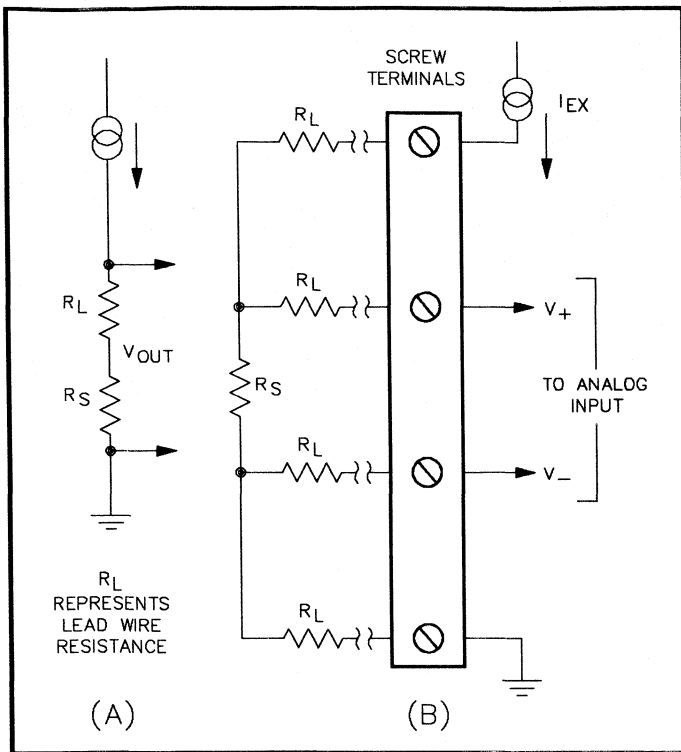

FIGURE 4-14. Measuring a Resistive Device.
that can be used to amplify the voltage change. Let us explore this concept in more detail. Fundamentally, a DA&C system can measure only voltage. Fortunately, as has been suggested, all other types of signals can be transformed into voltages. To convert a changing resistance, we need only to “excite” it with a current. The voltage across the resistance is then $(I \cdot R)$. FIGURE 4-14 (A) shows the basic idea.
The effects of lead-wire resistance should also be considered. The output voltage is proportional to the sum of the RTD resistance and the connecting wire resistance (R_L). In many applications this “wire error” can be very significant. FIGURE 4-14 (B) suggests a solution. This is the so-called Kelvin or four-terminal connection. Wire resistance cannot be eliminated, but this measurement technique greatly reduces the effects. The idea is to connect two wires to each end of the measuring device. One lead carries the excitation current and the other senses the terminal voltage. Current in the sense or measurement lead is very small and can be assumed to be zero. This is because the DA&C system has a very high input impedance. Thus, no voltage drop occurs in the sensing lines. Note that under these conditions the drops in the excitation lines are not in the measurement circuit.